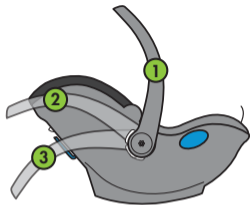

Figure 25
The Carry Handle has three adjustment positions as shown in **Figure 25**: Upright (1), Stowed (2), Ground (3).